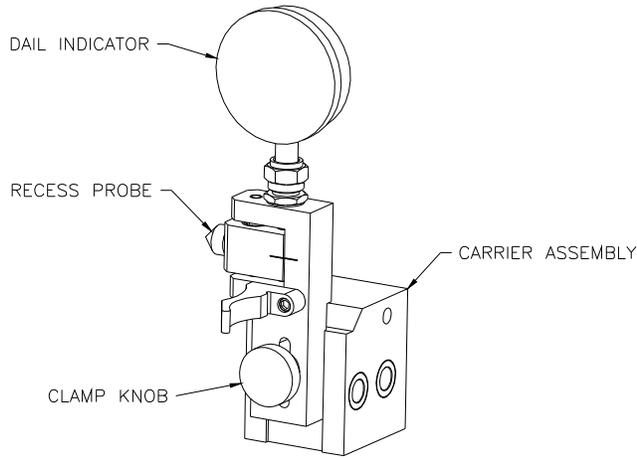
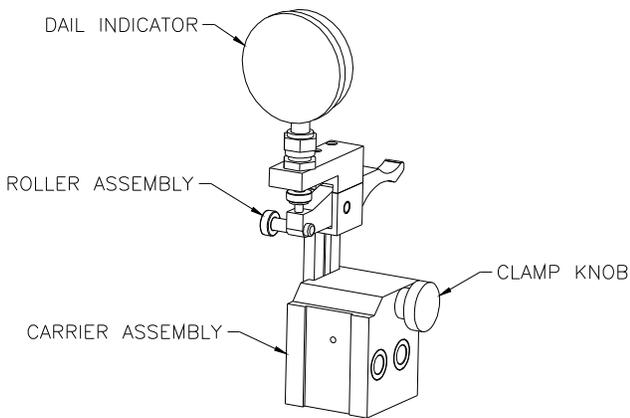

Figure 5. Recess Checking Attachment
Figure 6. Hex Checking Attachment
5.0 Indicator Carriers – (See Figures 5 and 6)
All Standard Indicator Carriers assure accurate Indicator Probe positioning and zeroing and provide smooth Indicator movement to increase measuring performance and accuracy. Carriers offer a variety of positions along the Z-axis of the Gage to accommodate various lengths. They can be used with Recess Probe (see Figure 5), also Roller Assembly for External Hex Profile (see Figure 6).